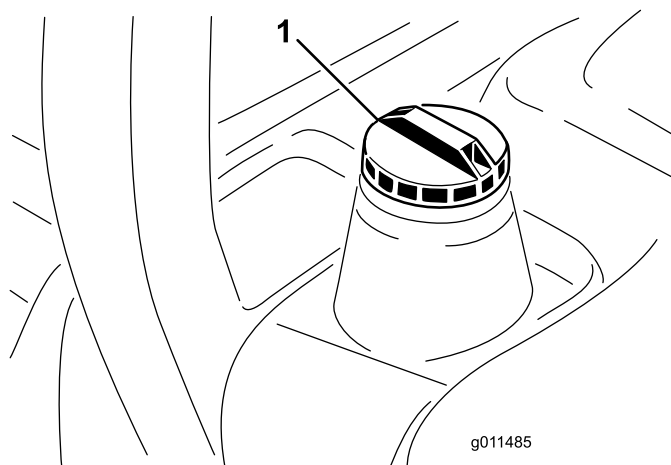

Figure 11
3. Remove cap from the fuel tank (Figure 11).